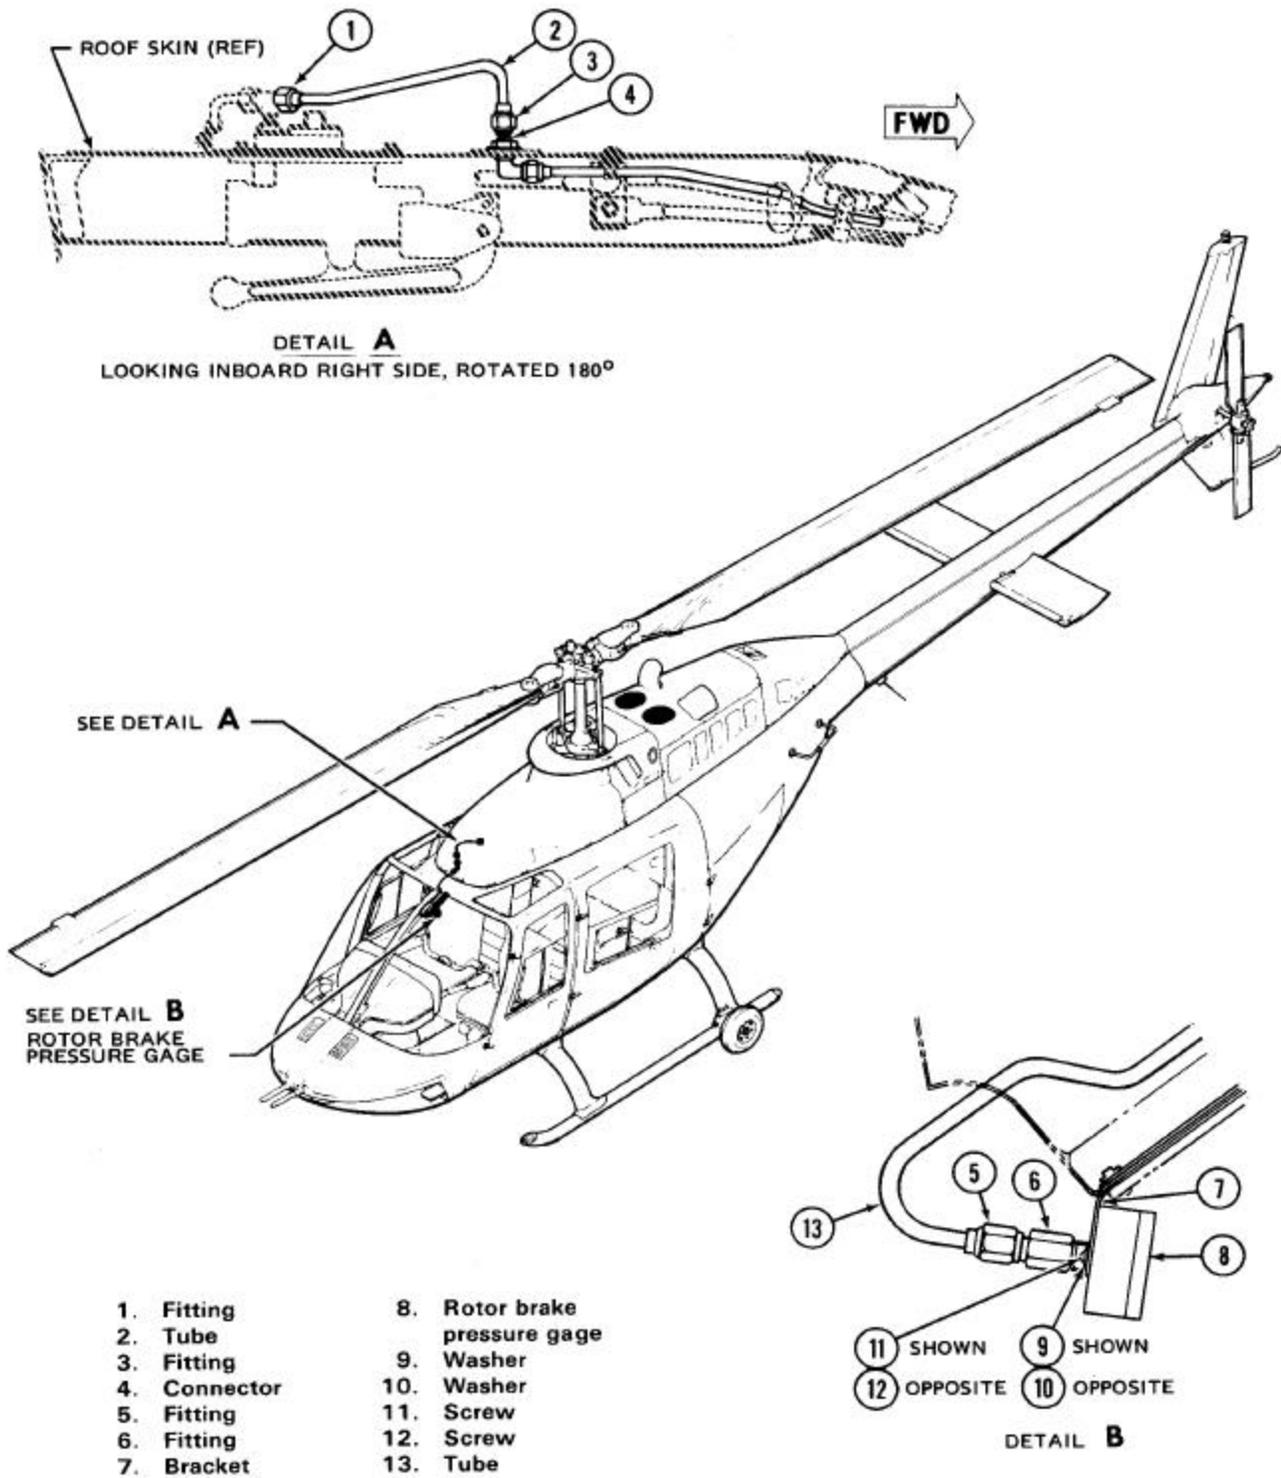

Figure 31-6. Rotor Brake Pressure Gage
3. Place wiping cloths around the base of connector (4, Figure 31-6) to catch hydraulic fluid.
4. Loosen fitting (3) until it lifts free of connector (4).
5. Place wiping cloths under fitting (1).
6. Loosen fitting (1).
7. Rotate tube (2) to separate fitting (3) from connector (4) to allow hydraulic cart connection.
8. Connect hydraulic cart to connector (4). Apply approximately 150 psig as indicated at hydraulic cart.
9. Verify that rotor brake pressure break gage (8) indicates approximately 150 psig.
12. Disconnect hydraulic cart from connector (4).
13. Rotate tube (2) and position fitting (3) over connector (4).
2. Place a suitable container under the fitting (5, Figure 31-6) to catch hydraulic fluid.
3. Place a wrench on fitting (5) and another wrench on fitting (6).
4. Loosen fitting (5) until it can be separated from fitting (6).
5. Cap end of fitting (5).
7. Remove rotor brake pressure gauge (8) from bracket (7).
8. Remove fitting (6) from rotor brake pressure gauge (8).
Prior to installation ensure fitting (6, Figure 31-6) is connected to rotor brake pressure gauge (8).
2. Position rotor brake pressure gauge (8) in bracket (7).
4. Place wiping cloth under fitting (5) and remove cap.
5. Mate fitting (5) to fitting (6) and finger tighten.
6. Place a wrench on fitting (5) and another wrench on fitting (6).
7. Tighten fitting (5) to fitting (6).